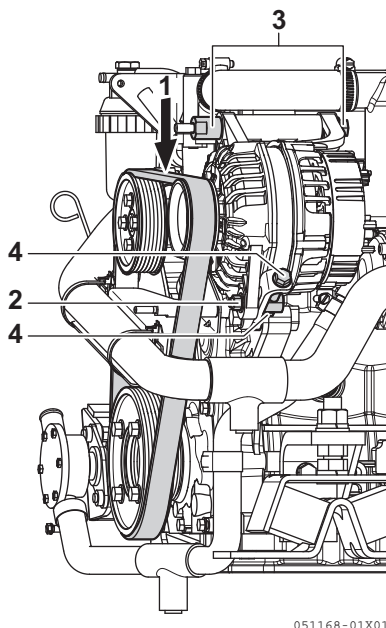

Figure 3
2. Check the belt by pushing on the middle of the belt (**Figure 3, (1)**) with your finger.
3. Loosen the 3 bolts of alternator (**Figure 3, (2) (3) (4)**).
4. Screw in the adjusting bolt (**Figure 3, (4)**) and move the alternator to adjust the belt tension properly.